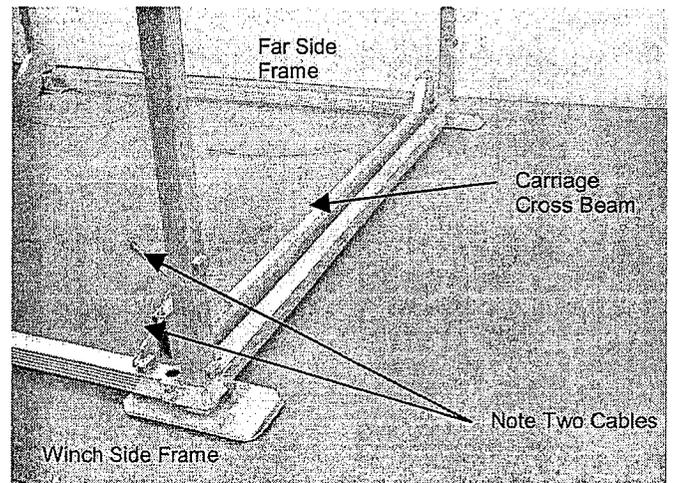

FIG. 8
3. Position the carriage cross beam with two cables at the end of the lift opposite of the winch as shown in FIG. 8.